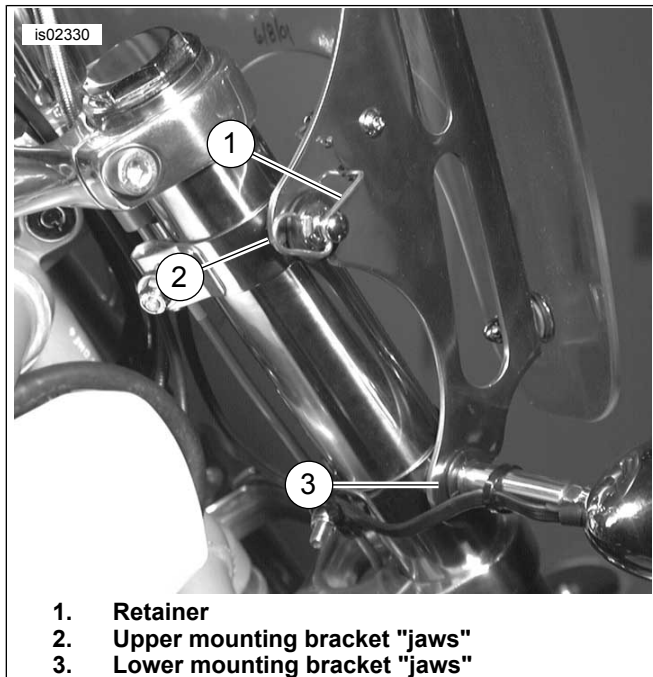
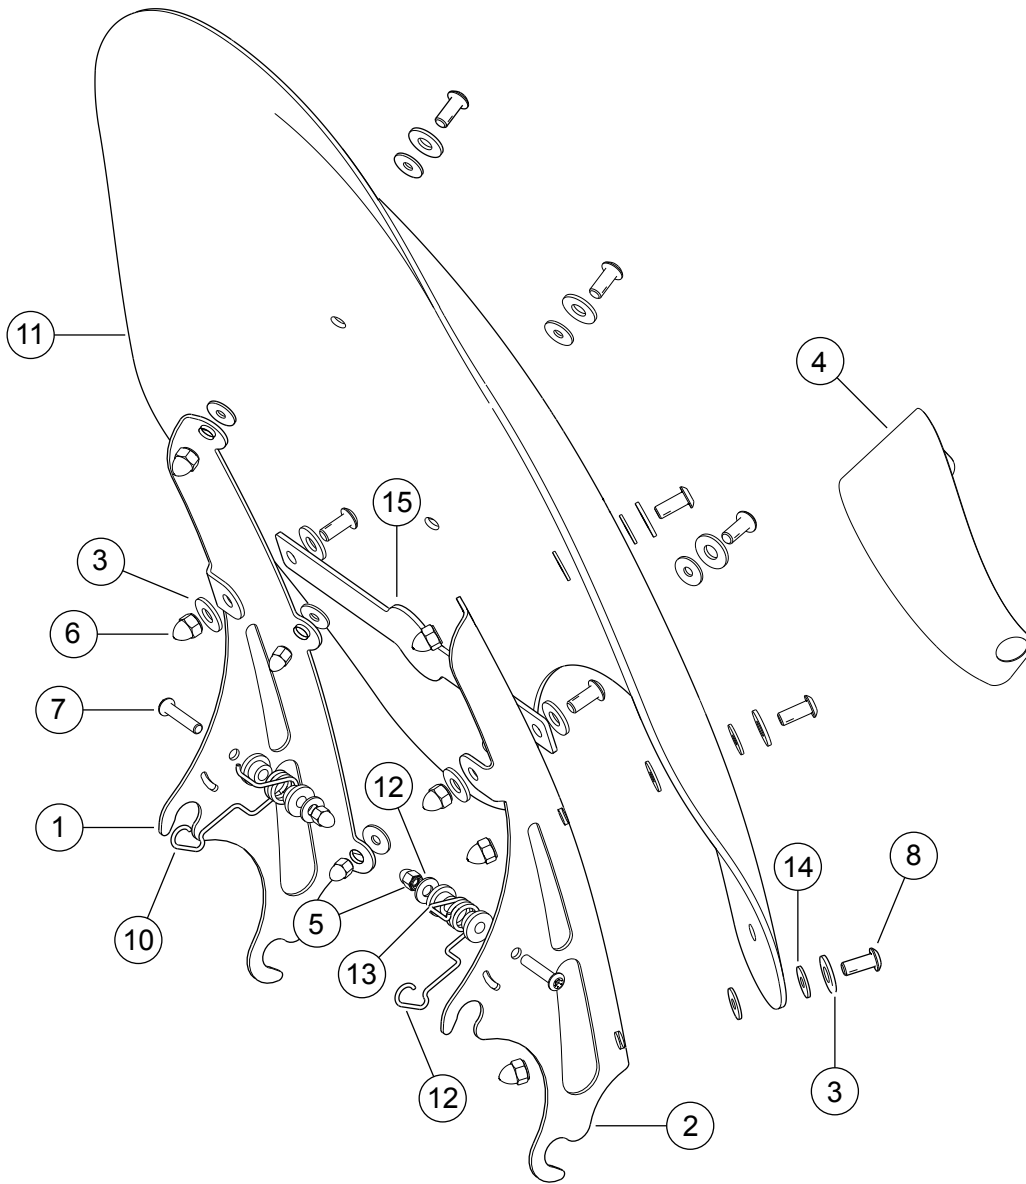

Figure 13. Mount Windshield
Figure 15. Service Parts: Windshield Kit
14. See Figure 15 and Figure 12. Obtain Headlamp Visor (4) from kit. Remove the two screws securing the headlamp to the headlamp mounting bracket.
1. See Figure 15 and Figure 13. Perform the following and install windshield. DD